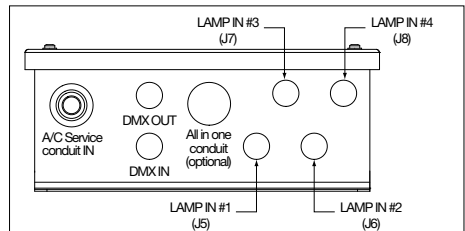
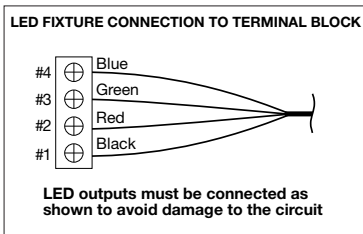

FIGURE 2
FIGURE 3b
2. Install the power, communication, and LED accessory conduit fittings as desired to the enclosure (see FIGURE 2).
Note: The left most conduit fitting hole must be used for installation of power to the controller. The LED accessory and communications conduit connections should be placed as shown in FIGURE 2.
4. Install the ends of the conduit to the enclosure after routing the excess wire length into the enclosure at the appropriate locations (see FIGURE 2)
- Locate the incoming cable for fixture #1 (see FIGURE 2). This cable will be attached to terminal block J5 on the PCB. Trim excess cable leaving no more than six (6) inches protruding from the conduit.
- Carefully remove two (2) inches of insulation from the cable (a box cutter set to protrude less than 1/8” is good for this purpose). Cut from the desired removal location towards the cut end of the cable to prevent damaging the internal wires.
- The wires will be installed as shown in FIGURE 3b below.
7. Repeat for the remaining three wires of the cable (see FIGURE 3b). Tuck the excess cable out of the way for the remaining steps.
8. Repeat steps 2-7 for fixture #2 using the appropriate conduit input for location #2 (usually the back most to the right side) and J6 of the PCB (see FIGURE 3b).
9. Repeat steps 2-7 for fixture #4 (it helps to install #4 before #3). Usually this will be the front most conduit input to the right. Connect fixture #4 to J8 of the PCB (see FIGURE 3b).
10. Repeat steps 2-7 for fixture #3. Connect fixture #3 to J7 (bottom right) of the PCB (see FIGURE 3b).
2. Locate the incoming DMX communication cable (see FIGURE 2). This cable will be attached to terminal block J3 on the PCB. Trim excess cable leaving no more than four (4) inches protruding from the conduit.